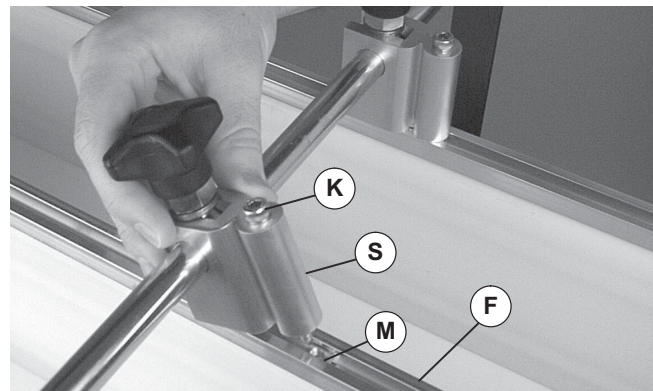

Figure 14
2. Loosely attach positioner (Figure 14, item S) to square nut (M) in lane guide (F) with screw (K).
Periodically, detach lane(s) from positioners. Clean any debris from between bottom of lane(s) and conveyor belt. Replace and re-secure lane(s). Tighten screws (Figure 14, item K) to 146 in-lb (16 Nm). Hand-tighten knob(s).